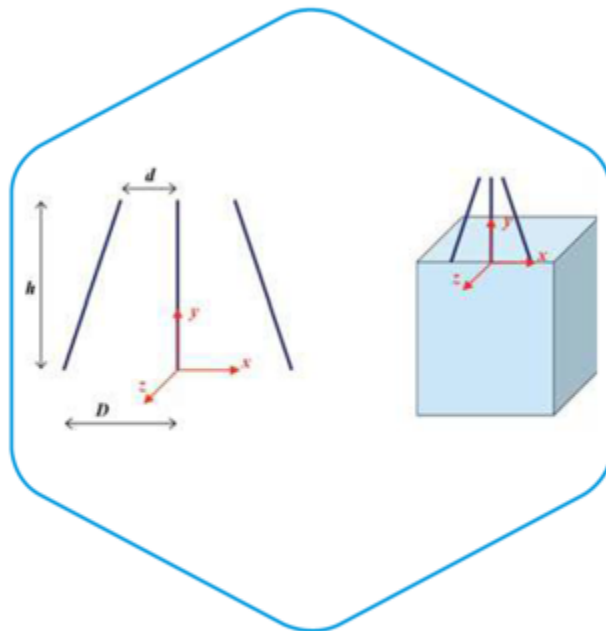

Fig. 2 - Graphic representation of a MV/LV transformer with the LV output pointing upwards.
As shown in Fig 2, the output is equivalent to the three sections of the conductor which are spaced out the same distance as the terminals of the transformer (D) on the transformer side. They are closer together (d) on the other side, where they form the bundle of cables directed toward the LV distribution substation. The height of the cables is a parameter that can vary depending on the installation mode. The distances on the different axis (with reference to Fig 2) when magnetic induction is equal to $3 \mu\text{T}$ (quality target) have been calculated on the basis of the nominal power and therefore on the basis of the secondary LV currents.